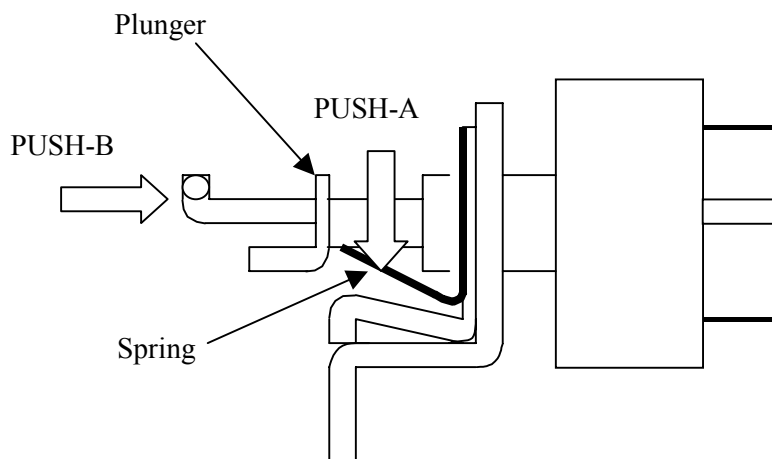

Fig. 1.2-2 Emergency condition
- (2-a) Push down (PUSH-A) the spring mounted in the removed EPO switch. (See Fig.1.2-2)
- (2-b) Then push (PUSH-B) the plunger into the EPO switch. (See Fig.1.2-2)
- (3) Attach the EPO switch.